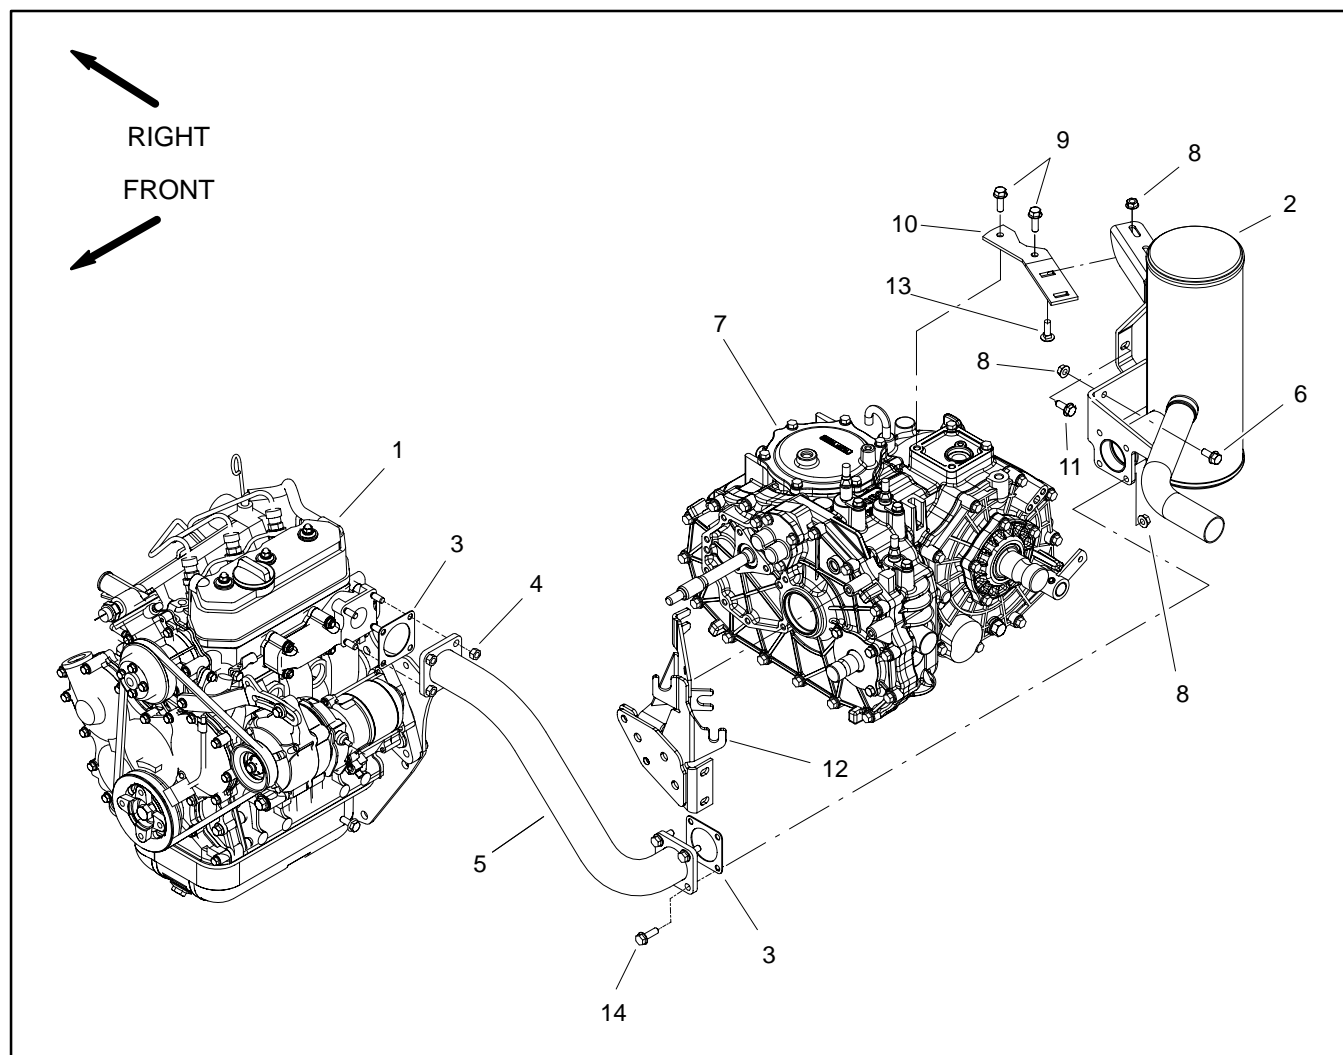

Figure 8
Removal (Fig. 8)
3. Remove exhaust system components as needed using Figure 8 as a guide.
Installation (Fig. 8)
2. Using Figure 8 as a guide, fit all exhaust components to vehicle before tightening any fasteners. When securing exhaust, tighten fasteners in the following order:
- A. Hex nuts (item 4) that secure exhaust tube to engine.
- B. Flange head screw (item 11) that secures muffler to transaxle.
- C. Flange head screws (item 14) and flange nuts (item 8) that secure muffler to exhaust tube.
- D. Flange head screws (item 6) and flange nuts (item 8) that secure muffler to shift cable mount bracket.
- E. Carriage bolts (item 13) and flange nuts (item 8) that secure muffler to mount plate.